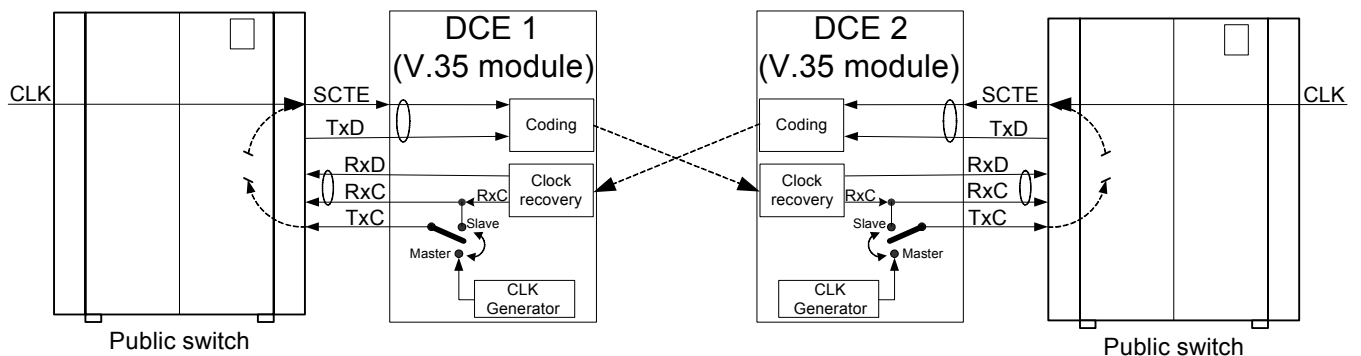

Figure 7
2. Interconnection of two DTEs that are clocked independently from a built-in or an external far-flung clocking source (Figure 7), i.e., when both DTEs work as masters in term of synchronization. Both DTEs ignore the TxC clocking signal from DCEs, hence it is unimportant whether DCEs are set as masters or slaves.